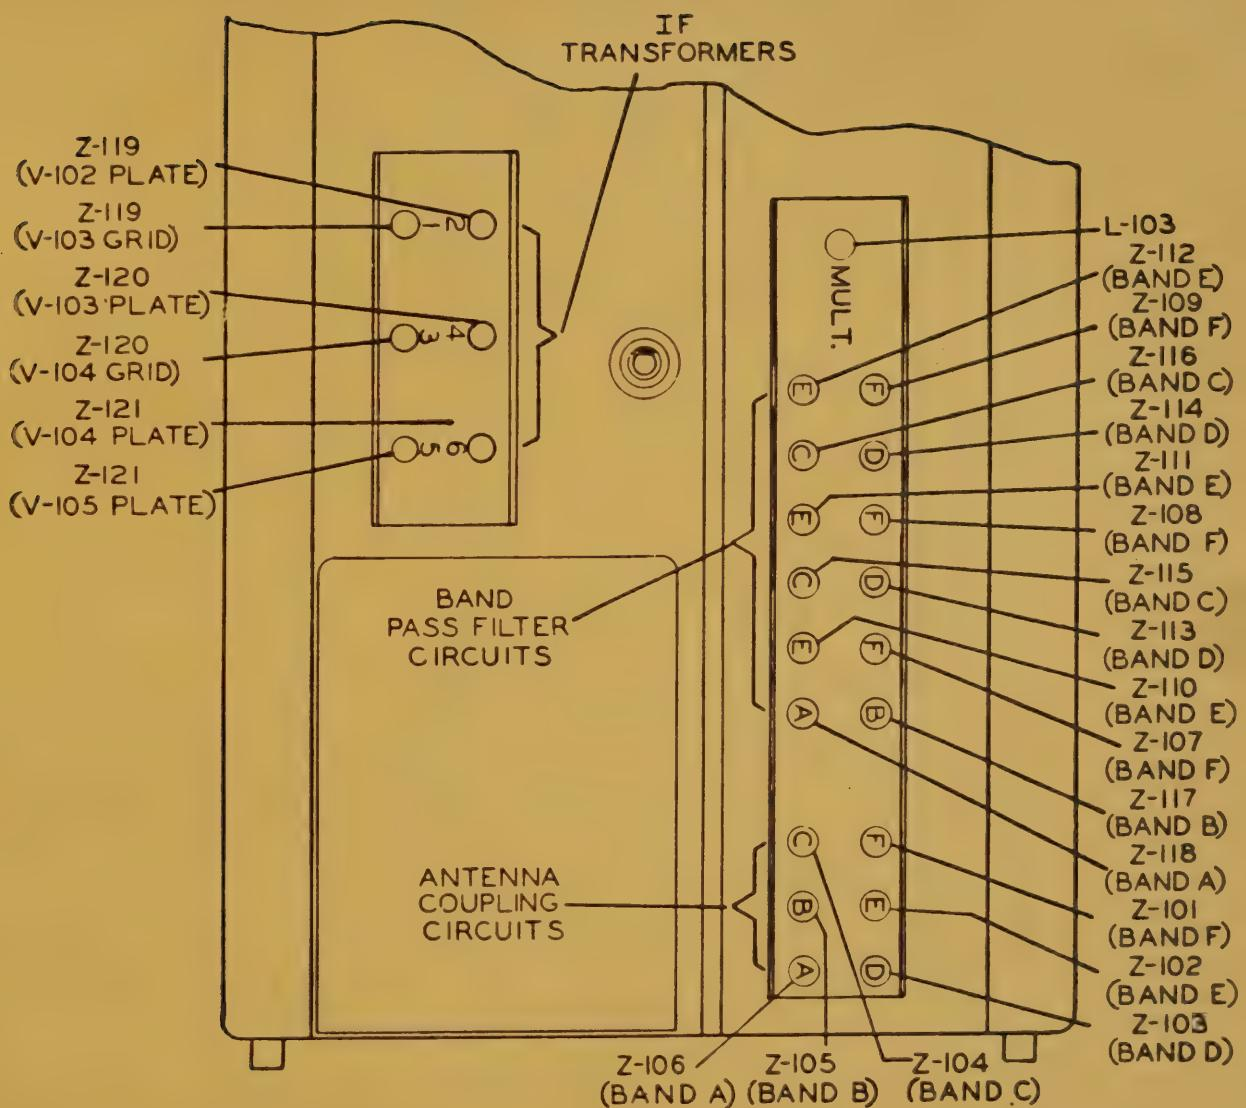

Figure 5-6A Tuned Circuit Locating Diagram
(9) Adjust i-f slug numbered "1" (Z-119, V-102 Plate) on the i-f platform (see figure 5-6A) for maximum output meter readings. Repeat procedure for slugs 2-3-4-5 and 6.
- (1) Rotate the TUNING control to the stop on the high frequency end of the band, then back away from the stop from two to three turns of the TUNING control.
- (2) Adjust the signal generator to the frequency arrived at on the receiver. Adjust both the signal generator and the output meter to find the avc threshold level as outlined in steps (7) and (8) under i-f alignment procedure.
- (3) Check the band pass and antenna coil tuning slugs of the band or bands to be aligned to make sure they are near the end of travel out of their respective coils (refer to Figure 5-6A).
(5) Stamped on the cover adjacent to each hole will be found a letter and a number. The letter corresponds to the band indicated on the tuning dial and the associated slug as shown on Figure 5-6A. Use a non-metallic alignment screwdriver to adjust the trimmer capacitor corresponding to the band it is desired to adjust.
(6) Trimmer and slug adjustments are numbered consecutively beginning with the antenna coil. Adjustments for any one band should be made beginning with the highest numbered trimmer or slug adjustment and proceed to lower numbered trimmer and slug adjustments. It should be noted that the number of tuned circuits varies with the frequency bands, increasing in number as the frequency is lowered.
(7) Each trimmer should be adjusted for maximum reading on the output meter, taking care to back off the signal generator output so as not to exceed the avc threshold level determined in step (5).
(8) After the high frequency end of a given band is adjusted according to the above procedure, tuning control should be rotated to the stop at the low frequency end of the band. Back away from the stop two or three turns of the TUNING control.
(9) Find the frequency with the signal generator and adjust the correspondingly designated slug for maximum output meter reading.
(10) Repeat steps (1), (7), (8) and (9) until satisfied that the mixer and antenna circuits are "tracking" with the oscillator multiplier circuits on any given band.